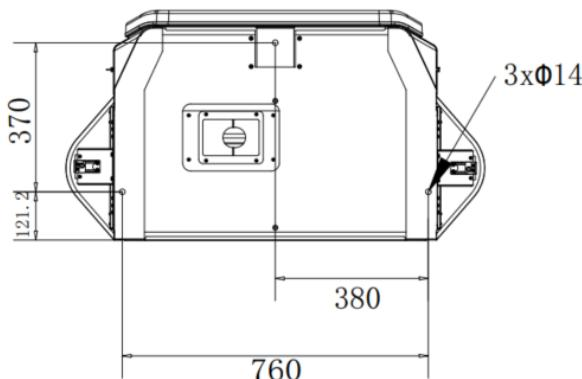

Fig. 5-3 Fixing dimension diagram
- The screw frame must be pre-embedded when making the foundation as shown in Fig. 5-3, three M12×100mm bolts must be pre-embedded, and the height exposed to the ground is 30 ± 3 mm.